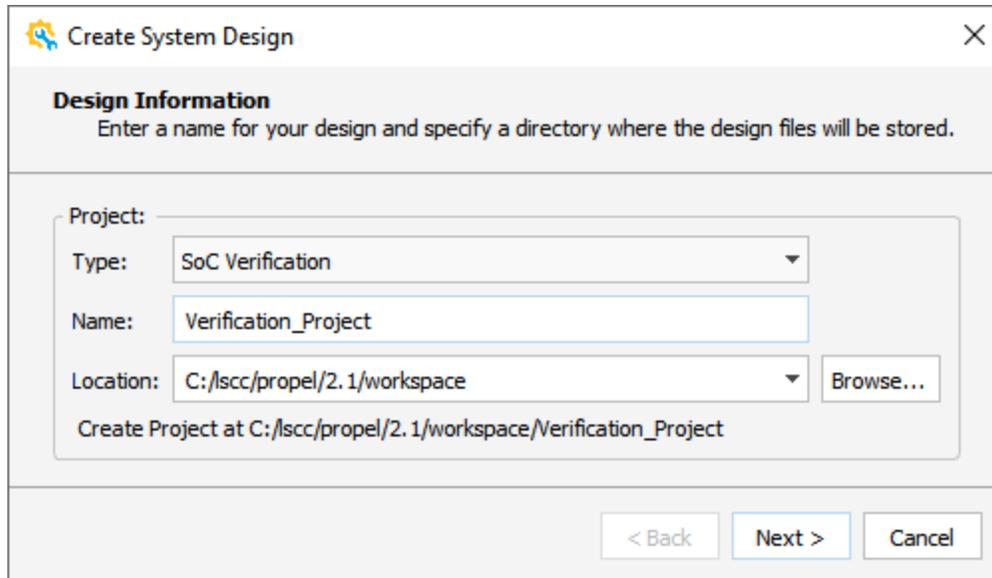

Figure 2.66. Create System Design – Design Information Wizard
1. Choose **File** >  **New Design** from the Lattice Propel Builder Menu Bar. The Create System Design wizard opens (Figure 2.66).